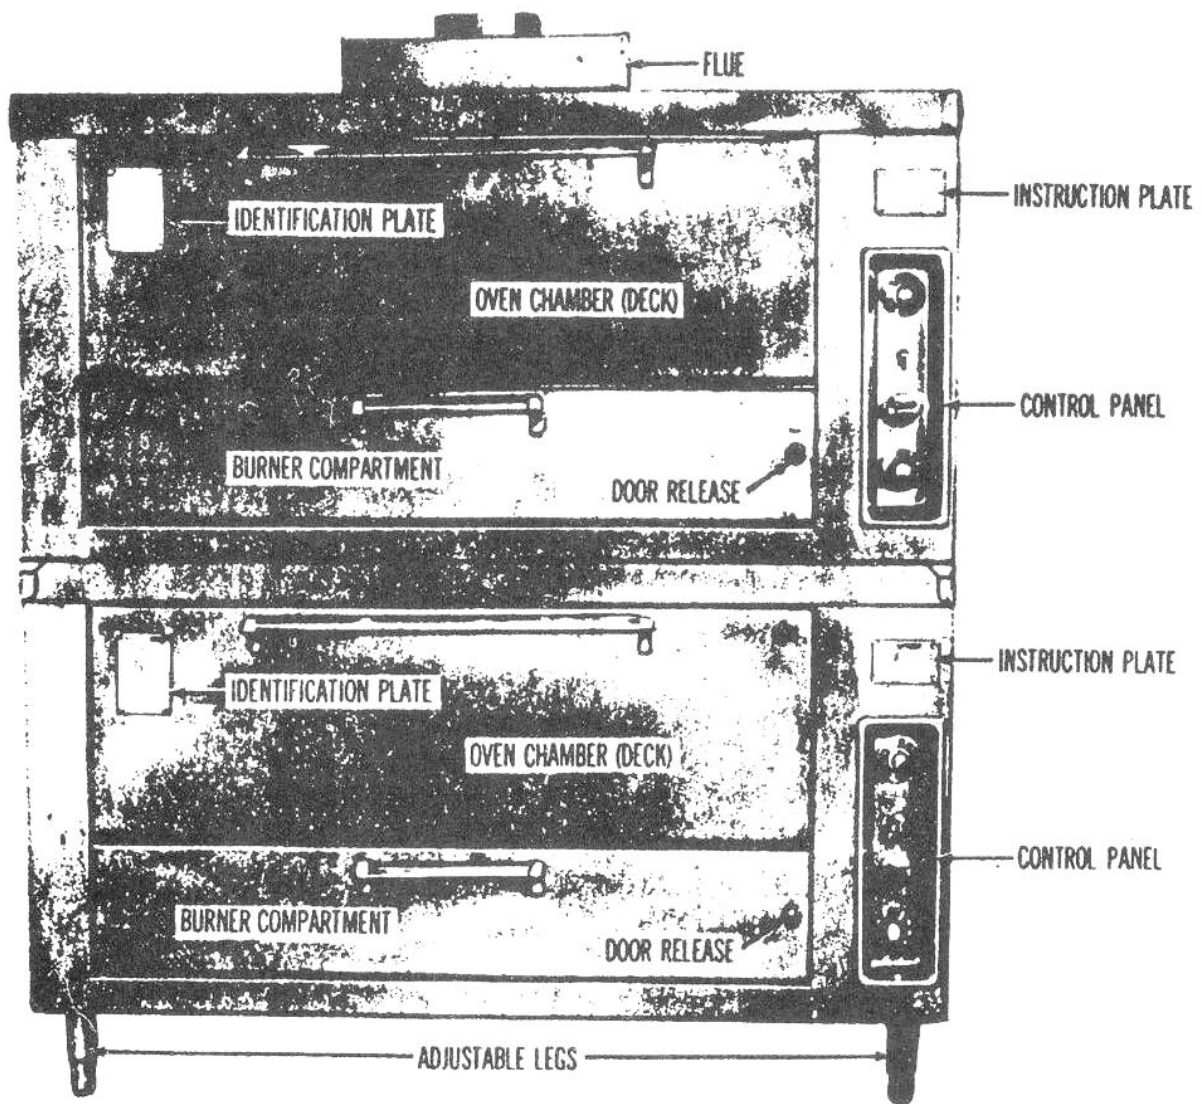
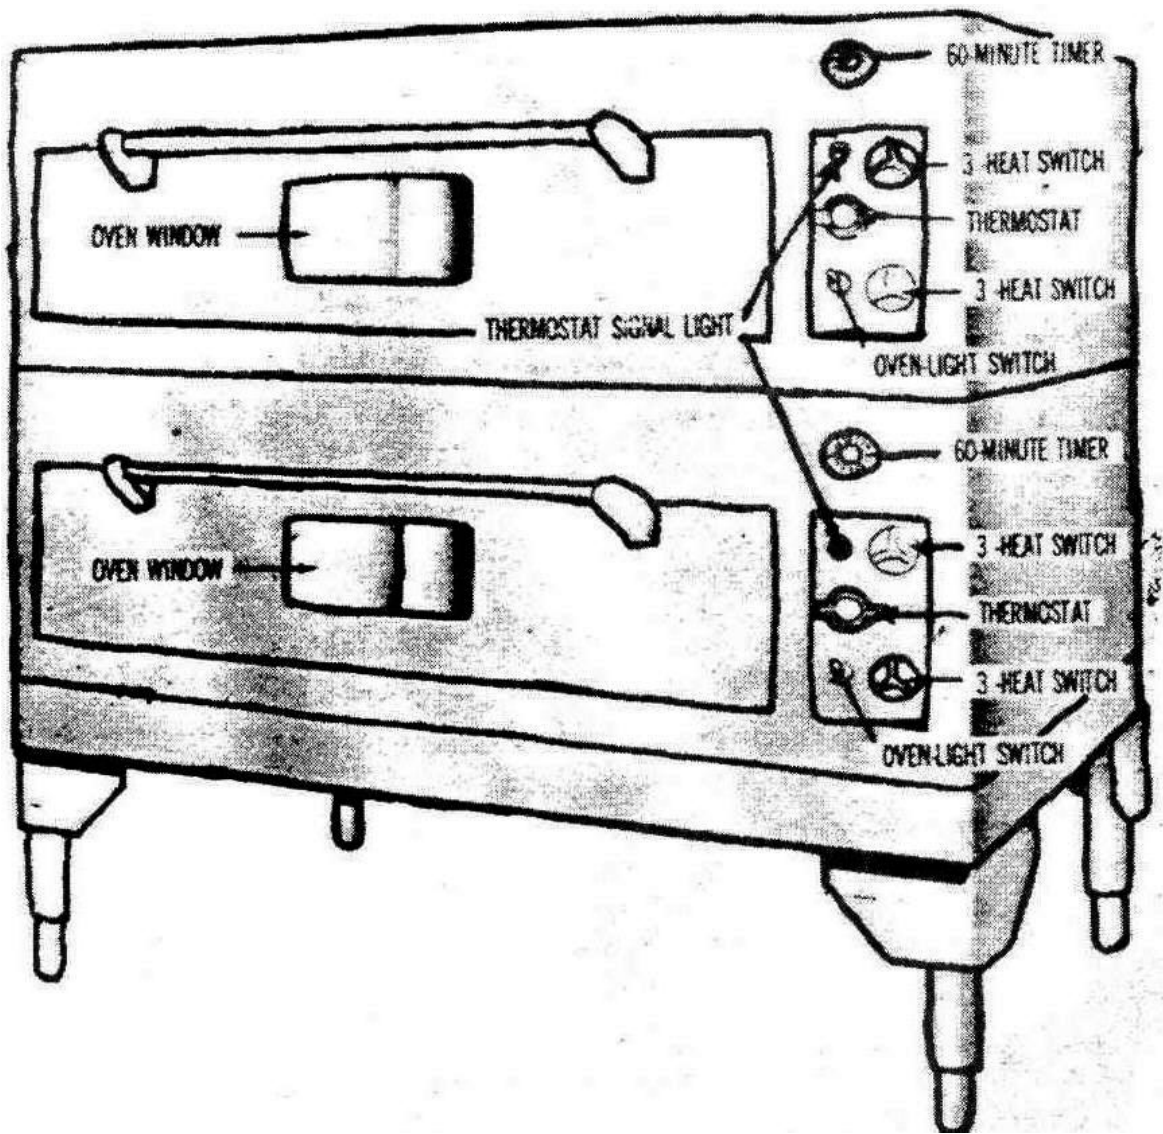
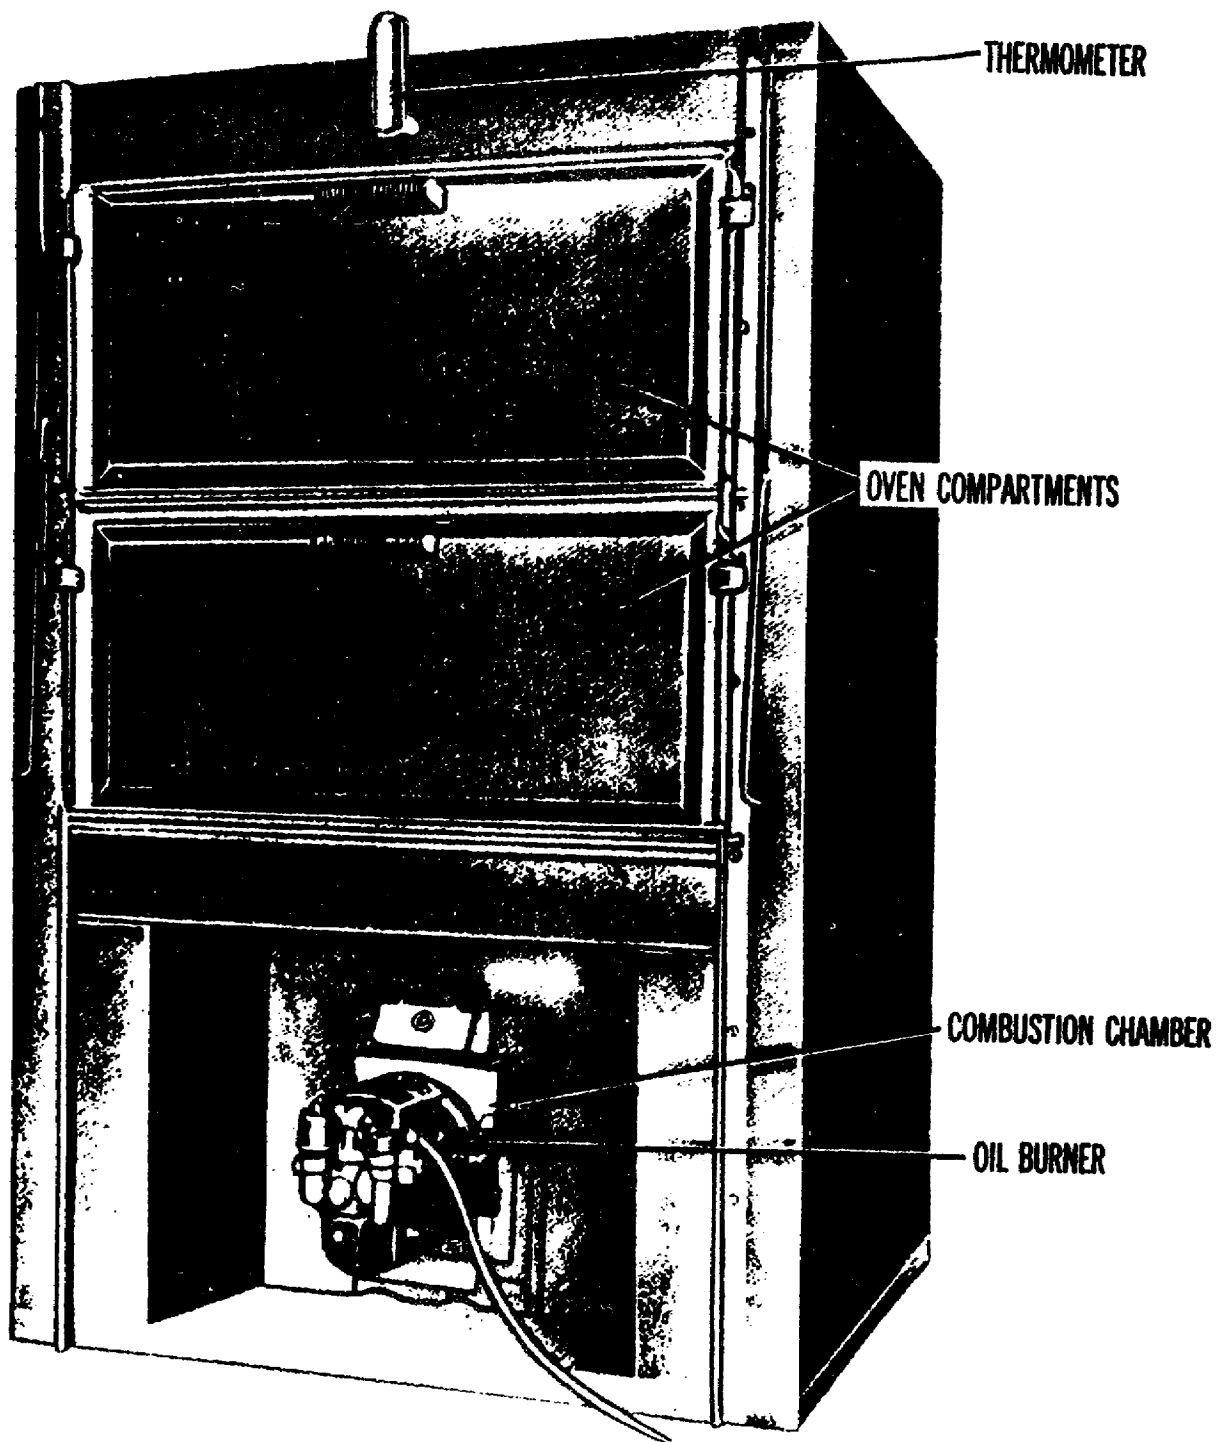

Figure 11. Sectional-type gas-fired oven.
Figure 12. Sectional-type electric oven.
Figure 13. Cabinet-type oil-fired oven.
13. Ovens. In larger dining facilities, range ovens do not provide adequate baking and roasting space so stacked ovens are used to provide additional space. They may be the cabinet type that consists of a single unit with more than one compartment all heated uniformly by one heat source, or the sectional type that is made up of several basic oven compartments each of which has separate controls and an independent heat source. These compartments are stacked, and the stack is mounted on legs. Gas ovens (fig. 11) are heated by natural, manufactured, mixed, or LP gas. The gas is piped to the ovens through the burner controls, and combustion takes place at the oven burners. The main gas valve controls the gas supply. Gas ovens are equipped with thermostats to control the temperature automatically. Electric ovens (fig. 12) are heated by two sets of electrical resistors or heating rods, one located at the top of the oven chamber and the other located under the oven deck. These units radiate heat into the oven. Each of these units is controlled by a three-heat switch, and each oven has a thermostat. Either or both of these heating units can be used to heat the oven to the desired temperature. Oil-fired ovens (fig. 13) are always of the cabinet type. The various oven compartments are uniformly heated by a single oil burner similar to that on an oil range.